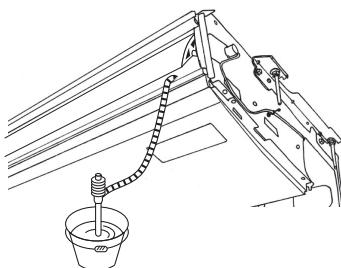

Fig. 5-3
1. Attach the joint socket (5) supplied with the unit to the drain port on the unit with a vinyl chloride adhesive.
2. Fasten the socket cover (6) supplied with the unit to the joint socket (5).
3. Attach the field drain tubing (VP-20) to the joint socket (5) with a vinyl chloride adhesive.
4. Wrap the drain tubing cover (7) supplied with the unit. (Seam taping)
- (A) Drain pan
- (B) Drain tubing
- (C) Socket cover (6)
- (D) Joint socket (5)
- (E) Drain tubing cover (7)
- (F) Insertion length 37 mm (1-15/32 in.)
5. Check for correct drainage. (Fig. 5-3)